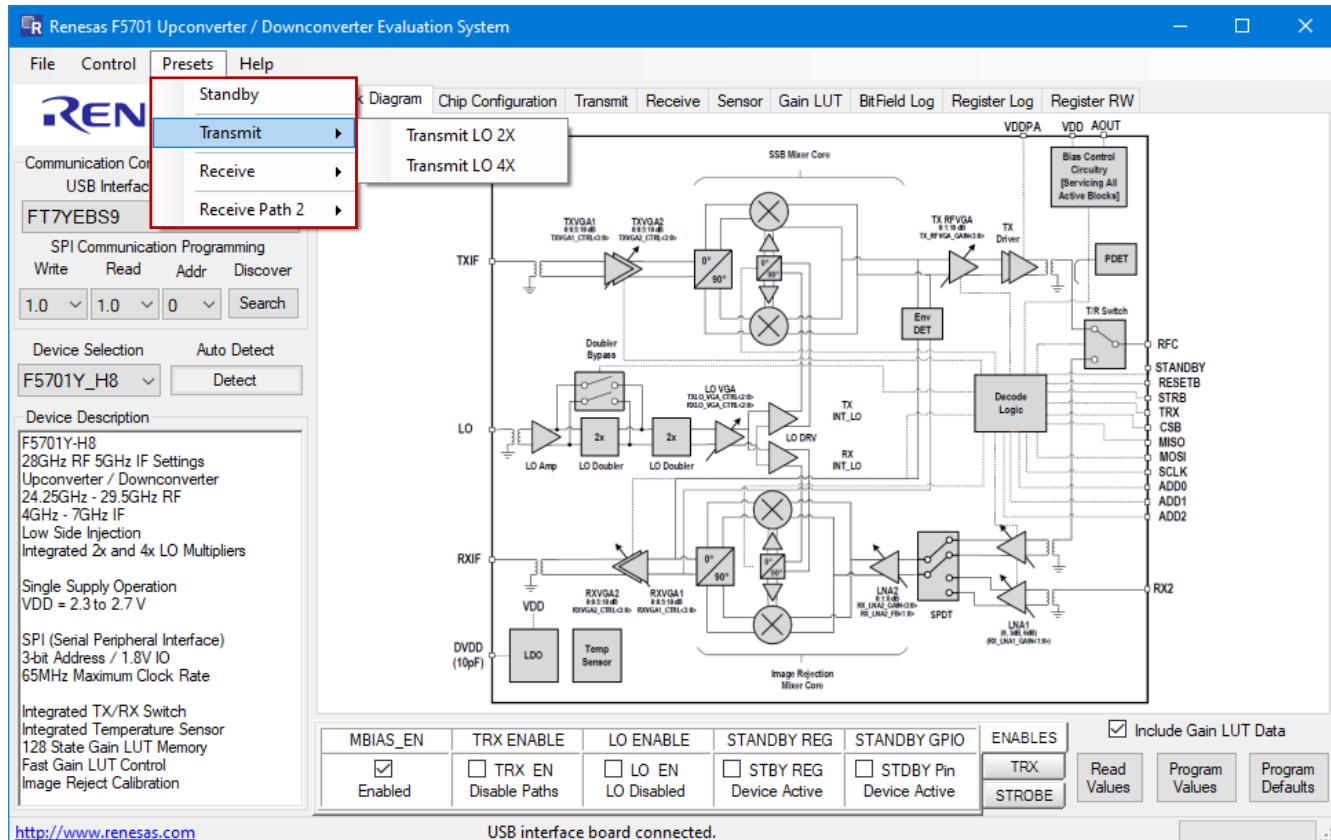

Figure 10. Presets Menu
8. For convenience, the Presets menu (see Figure 10) is provided in this software for users to quickly program the device to one of the predefined states for the standby mode, transmit modes, receive modes, and receive-2 modes (RX2 path). For example, by selecting the **Transmit: Transmit LO2X** option, both TRX and LO signal paths will be enabled in the transmit mode with LO_SEL set to 0 for LOx2.